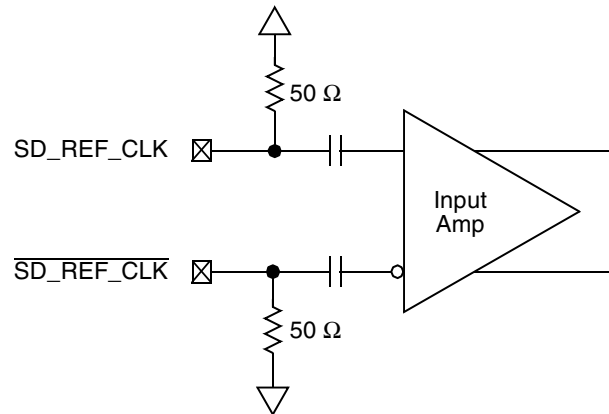

Figure 39. Receiver of SerDes Reference Clocks
Figure 39 shows a receiver reference diagram of the SerDes reference clocks.
- The SD\_REF\_CLK and  $\overline{\text{SD\_REF\_CLK}}$  are internally AC-coupled differential inputs as shown in Figure 39. Each differential clock input (SD\_REF\_CLK or  $\overline{\text{SD\_REF\_CLK}}$ ) has a 50- $\Omega$  termination to SGND\_SRDS $_n$  (xcovss) followed by on-chip AC-coupling.